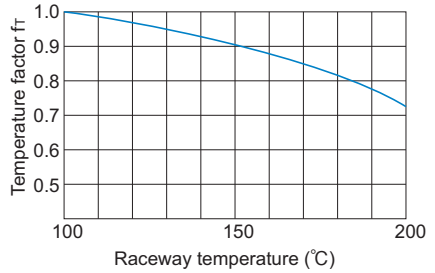

Fig.9 Temperature Factor (f_T)
- f_T : Temperature factor (see Fig.9 on **A1-67**)
If the temperature of the environment surrounding the operating LM Guide exceeds 100°C, take into account the adverse effect of the high temperature and multiply the basic load ratings by the temperature factor indicated in Fig.9.